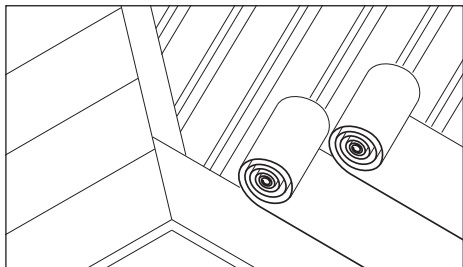

Fig. 13 – Underlay at valley
- 3 Where underlay is cut to centre-line of valley, lay a continuous strip of underlay not less than 600mm wide for the full length of valley beneath main courses of underlay (Fig. 13).